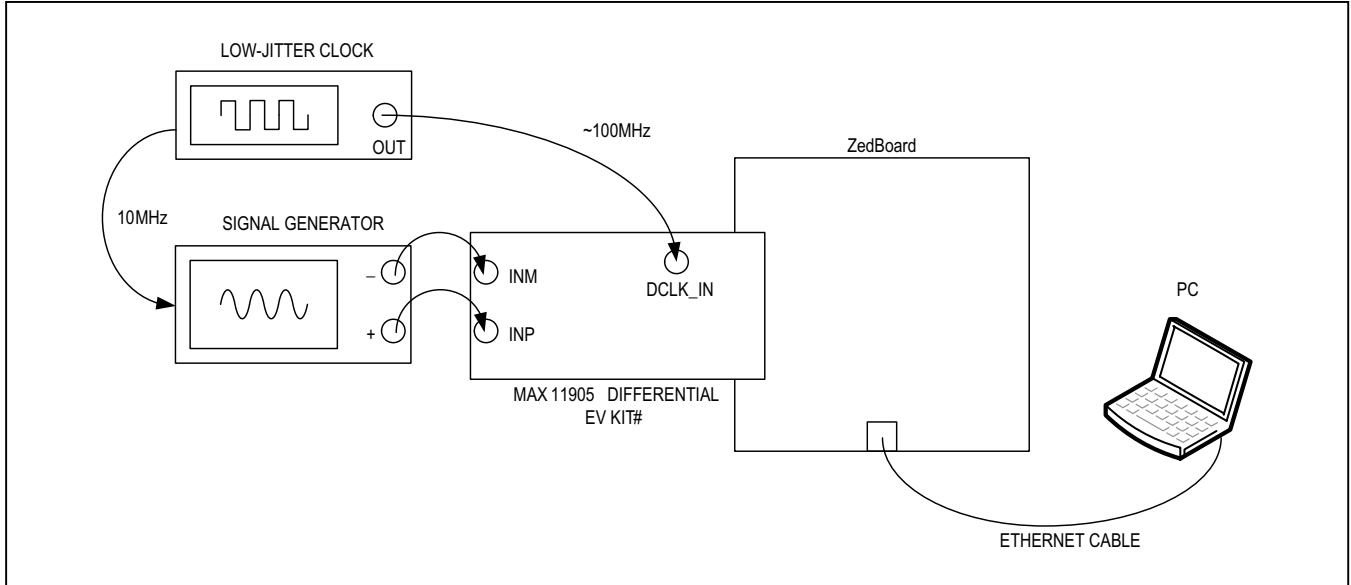
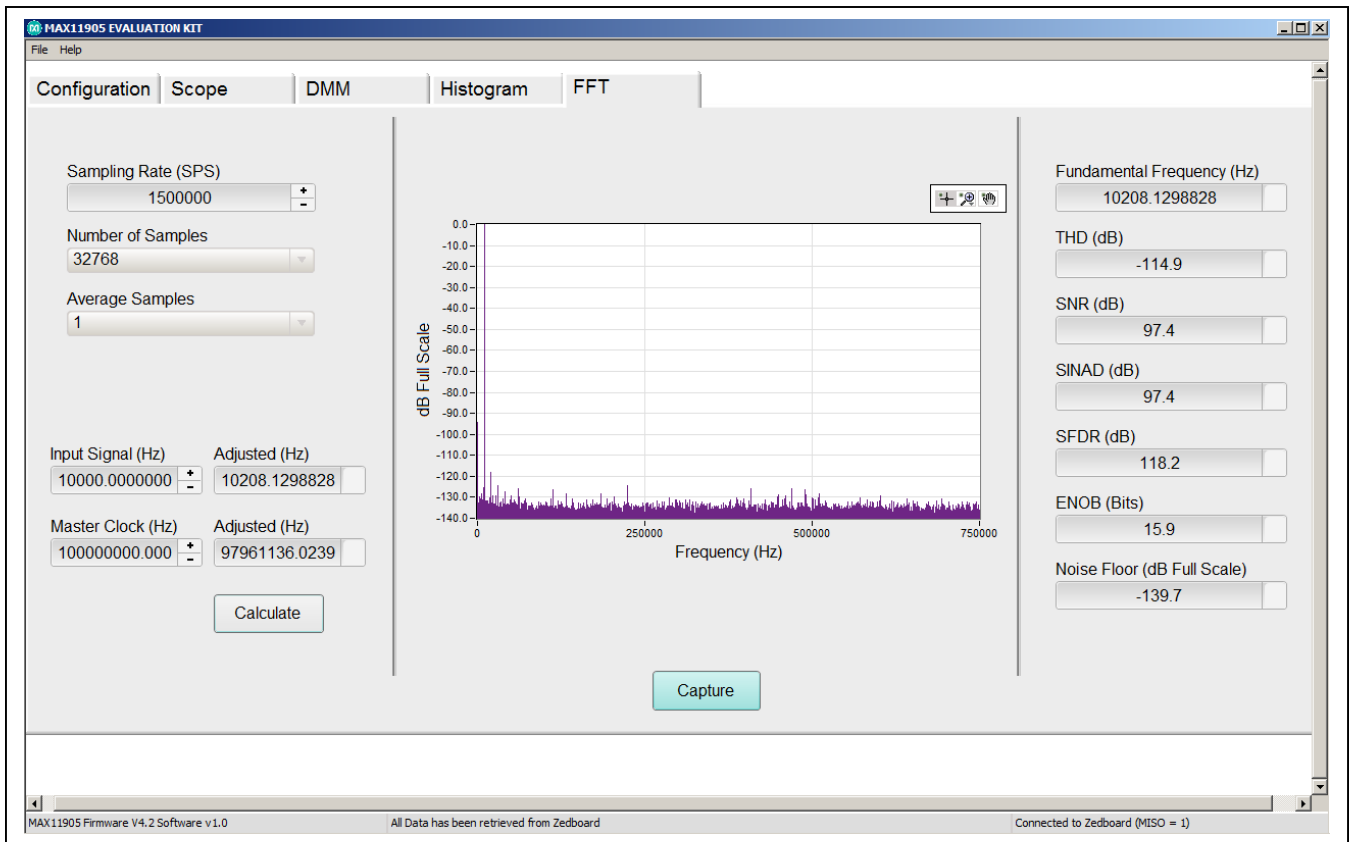
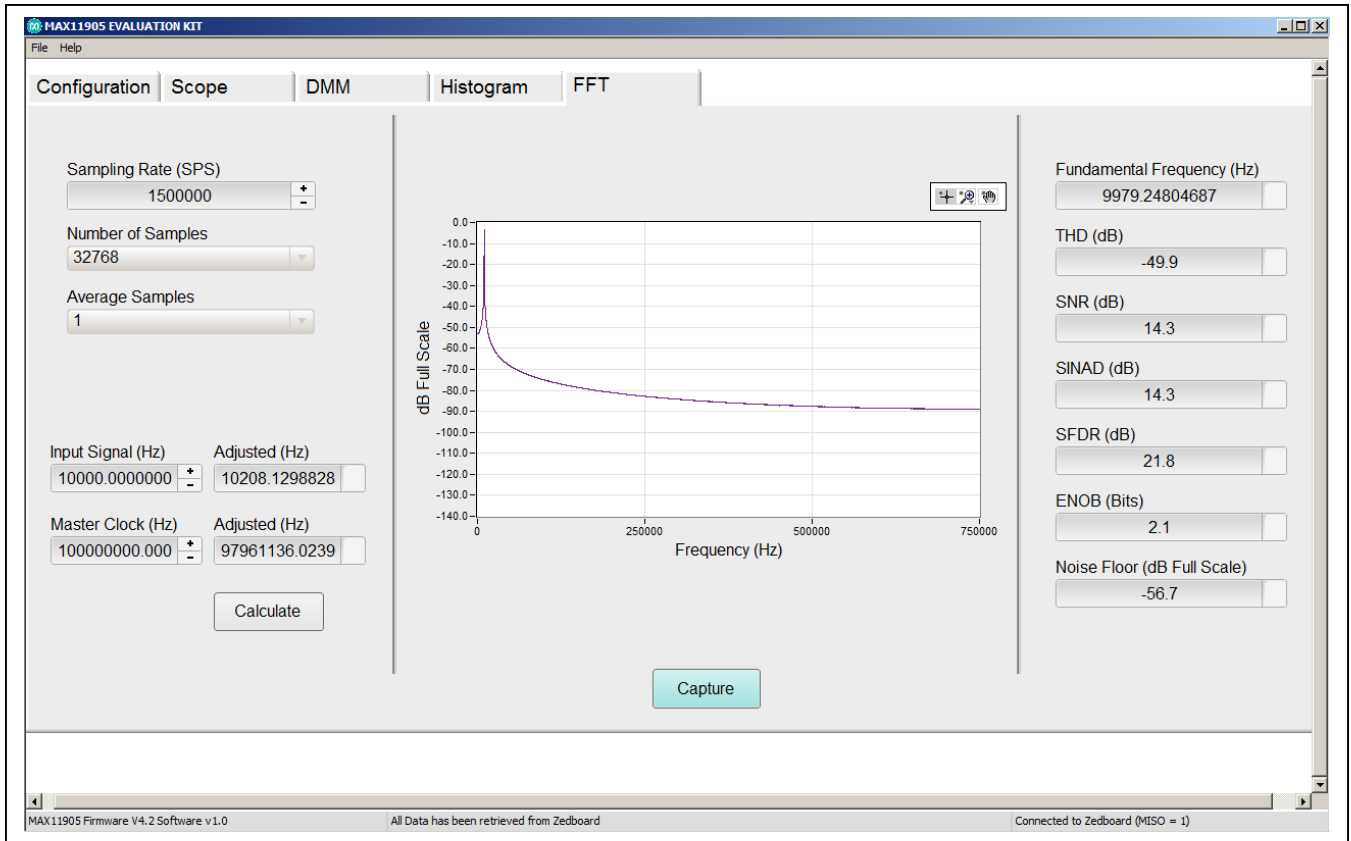

Figure 5. MAX11905 Differential EV Kit Coherent Sampling Setup
Figure 6. MAX11905 EV Kit Main Window, Coherent Sampling Results (FFT Tab)
Figure 7. MAX11905 EV Kit Main Window, Noncoherent Sampling Results (FFT Tab)
- 20) Click on the **FFT** tab (Figure 6) and start capturing data.
The **FFT** tab sheet (Figure 6) is used to display the FFT of the data. Sampling rate and number of samples can also be set in this tab if they were not adjusted appropriately in other tabs. When coherent sampling is needed, this tab sheet allows the user to calculate the input frequency or the master clock coming into the board. Either adjust the input frequency applied to the signal generator or adjust the master clock applied to the DCLK\_IN SMA connector. See the *Sync Input and Sync Output* section before using this feature. Once the desired configuration is set, click on the **Capture** button. The right side of the tab sheet displays the performance based on the FFT, such as fundamental frequency, THD, SNR, SINAD, SFDR, ENOB, and noise floor.
Figure 5 is the setup Maxim uses to capture data for coherent sampling.
**Note:** If the results do not look similar to Figure 6 and more similar to Figure 7, then check all connections in Figure 5 to make sure the setup is synchronizing properly.